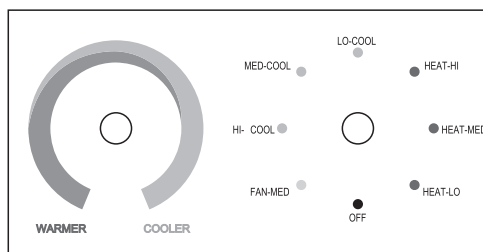

Fig.09 Rotary switch control
- . Turn the MODE switch in either positions (see Fig. 09) : Fan-Hi, cool-Med, cool-Lo, cool-Heat, Hi-Heat, Med-Heat, Lo-Off
- . Rotate the thermostat knob to the left to increase setpoint temperature OR to the right to decrease (see Fig. 09)